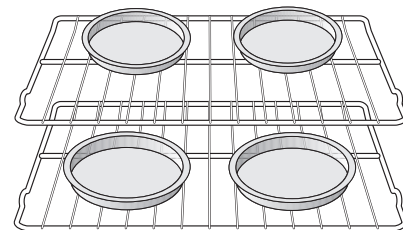

Figure 7: Baking on multiple levels
- For best results when baking cakes or cookies using 2 oven racks, place cookware in rack positions 3 & 6 and pans as shown in Fig. 7, on page 14